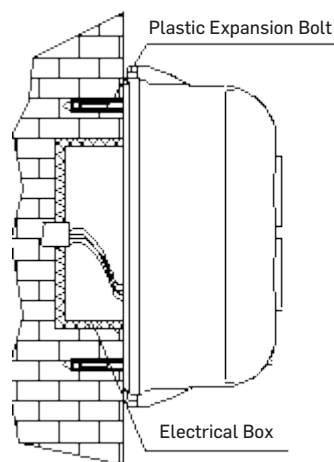

Fig.8
(1) Conduit Embedded
- The detector base should be fixed to the wall using two plastic expansion bolts and two plain washers. The mounting of the detector is shown in Fig.8.